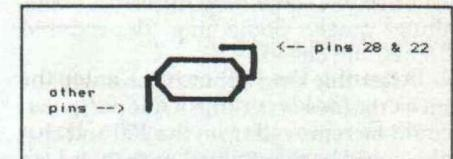

Figure 2. An end view of the RAMchip with pins 28 and 22 bent up and over the top of the chip.
1. Preparing the chips. Carefully bend pins 28 and 22 up over the back of the chip (see Figure 2).